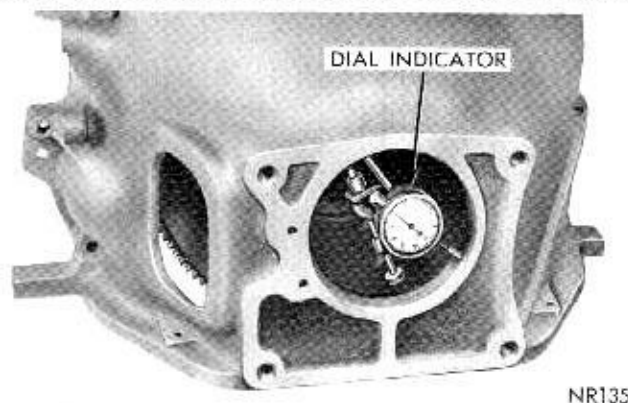
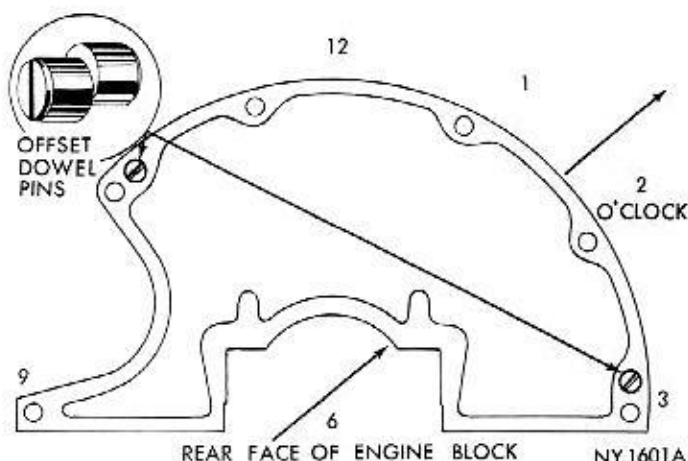

Fig. 11—Measuring Clutch Housing Bore Runout
Fig. 12—Offset Dowel Diagram (6 cyl.)
(1) Replace one flywheel to crankshaft bolt with a bolt about 3 inches long. Mount Dial Indicator C-3339 on this bolt with a "C" clamp (Fig. 11).
(2) With C-771 Flywheel Turning Tool, turn flywheel while noting dial indicator needle deflection. Bore out-of-round must not exceed .008 inch maximum total indicator reading, or .004 inch, one-half total indicator reading.
(3) Excess bore runout can be corrected by installing correct size offset dowels (Fig. 12 or 13). These dowels are available in three offset sizes and they **must be** installed in pairs of the same size: .007 inch, Part Number 1736347; .014 inch, Part Number 1736348 and .021 inch, Part Number 1736353.
(4) To illustrate recommended correction procedure, assume total indicator reading is .020 inch, in a direction which approximates 2 o'clock on engine block (Figure 12 or 13, depending on model).
(5) In this case, housing is off crankshaft centerline .010 inch (one-half total indicator reading) which is .006 inch greater than allowable limit of .004 inch (one-half total indicator reading).
(6) In the case under consideration, installation of two .007 inch dowels will bring runout within the allowable limits of .004 inch or .010 inch minus .007 inch (dowels) which equals .003 inch runout.
(7) The amount of eccentricity of the dowel will produce a total indicator reading change of double the dowel eccentricity, therefore, select a pair of dowels with the nearest to one-half of total indicator